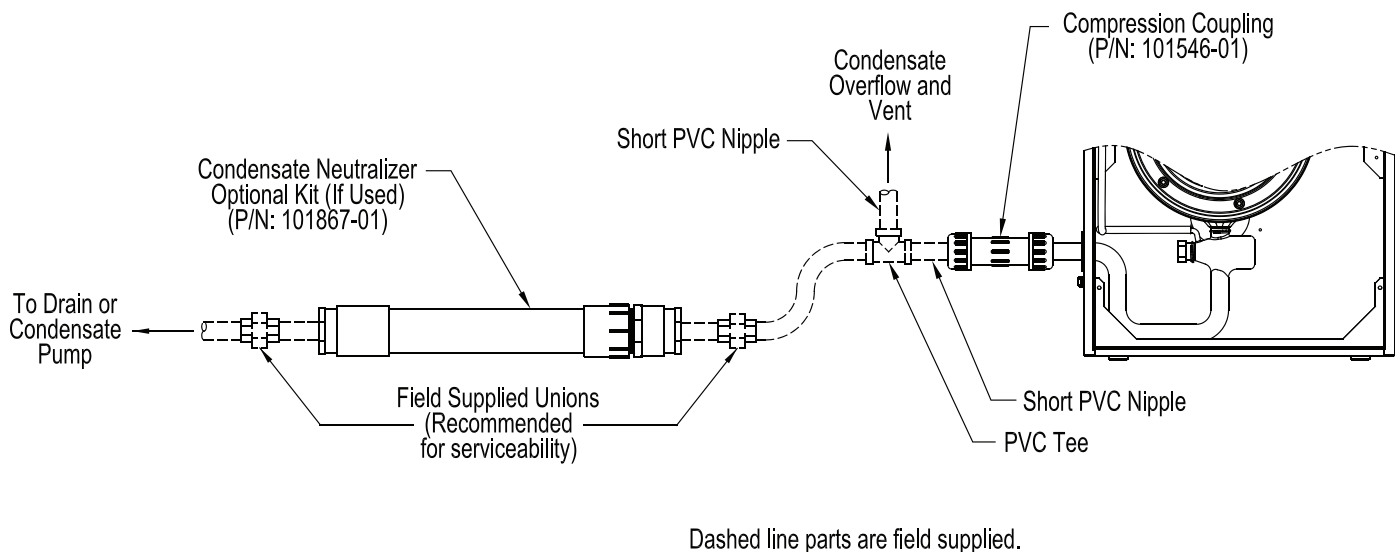

Figure 19: Condensate Trap and Drain Line
6. Install tee for condensate overflow and vent as shown in Figure 19.